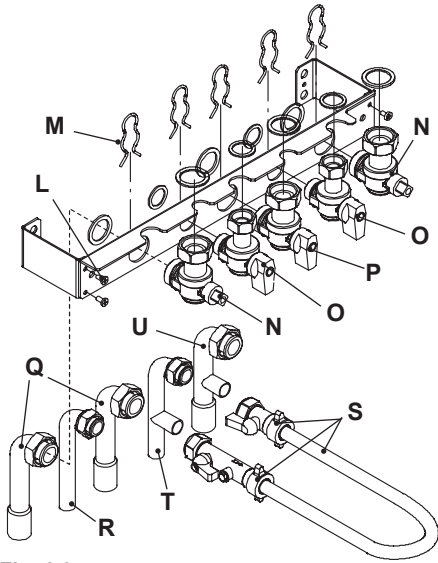

Fig. 6.3
- Assemble the pre-piping kit bracket by screwing the four screws "L" Fig. 6.3.